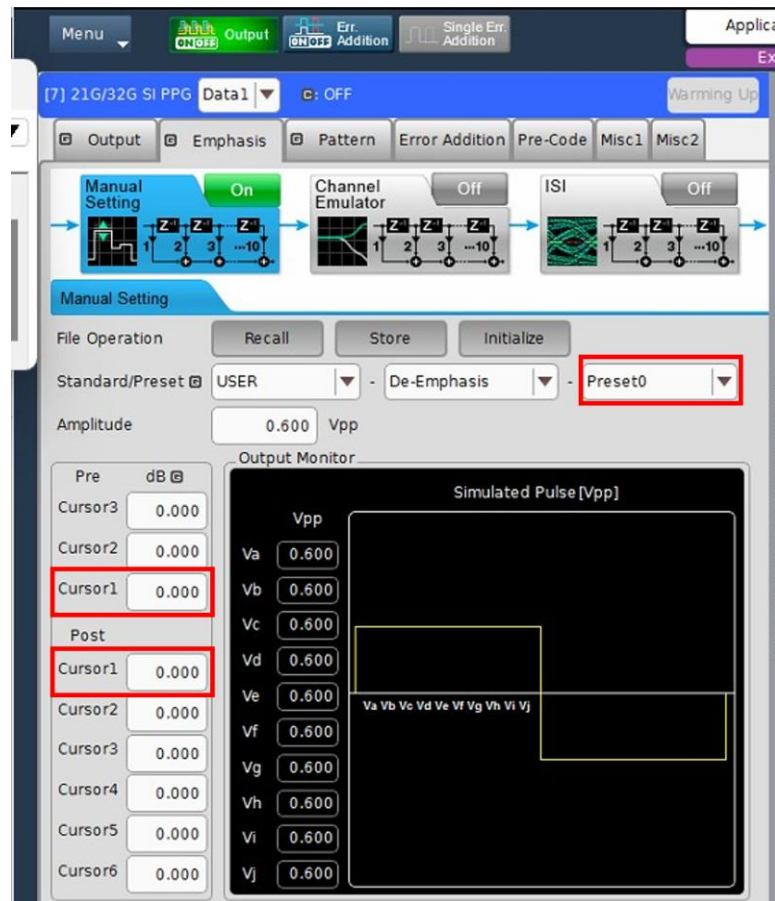

FIGURE 53. EMPHASIS CH1 INTERFACE
1. In the Emphasis tab, create 15 Presets with Deemphasis which match the Table in the DisplayPort 2.1 Specification. On the BERT, go to the PPG Emphasis tab and set the DUT preset to 0. See Figure 53 below.
- a) For DUT Configuration (1) – Enable Preshoot, Deemphasis and measure differential amplitude voltage of bits 57-62 ($|V_{bits(57-62)}(64 \text{ bits of 1s}) - V_{bits(57-62)}(64 \text{ bits of 0s})|$); mark it as V1.
- b) For DUT Configuration (2) – Set Preshoot to 0 as disabled and enable Deemphasis. Measure differential amplitude voltage of bits 57-62 ($|V_{bits(57-62)}(64 \text{ bits of 1s}) - V_{bits(57-62)}(64 \text{ bits of 0s})|$); mark it as V2.
- c) For DUT Configuration (3) – Enable Preshoot and set Deemphasis to 0 as disabled. Measure differential amplitude voltage of bits 57-62 ($|V_{bits(57-62)}(64 \text{ bits of 1s}) - V_{bits(57-62)}(64 \text{ bits of 0s})|$); mark it as V3.